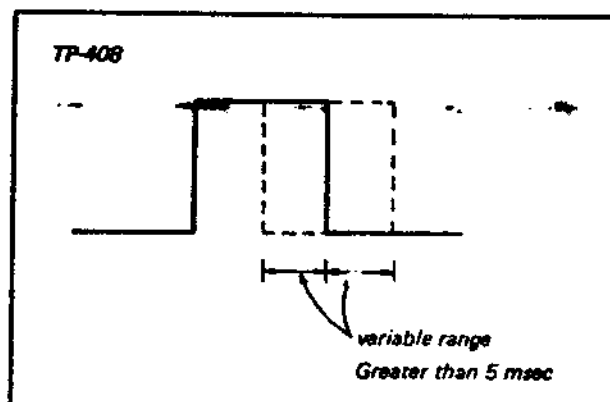

Fig. 6-12. Tracking control check
Check: See Fig. 6-12.
4. Pull and turn the TRACKING control (R007) and confirm that the output pulse shifts greater than 5 msec as shown in Fig. 6-12.